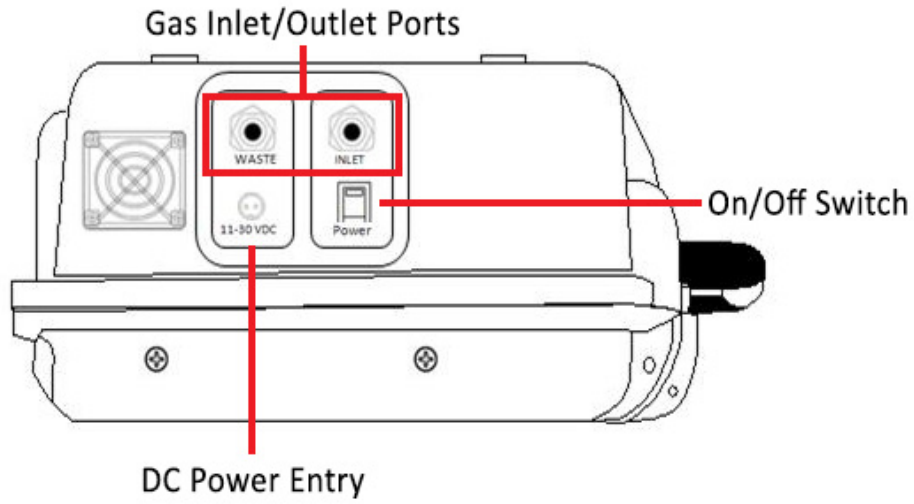

Figure 2: Left Panel
Figure 2 shows the left side of the analyzer.
1. Turn off the analyzer using the left side panel on/off switch. (Figure 2)